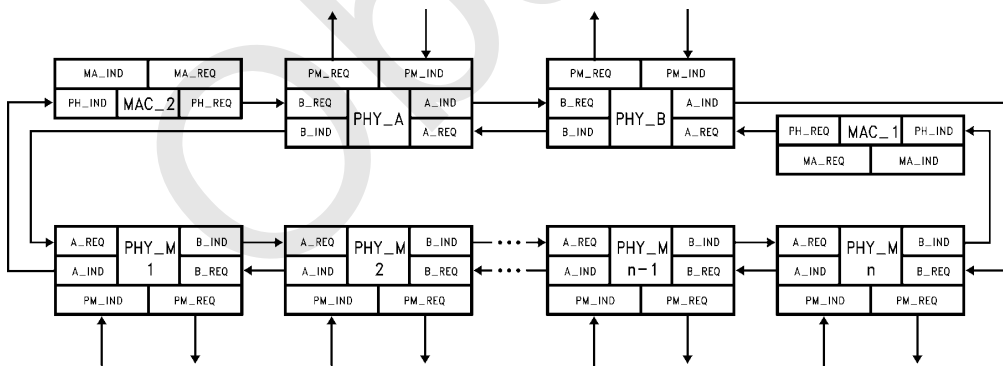

FIGURE 3-17. Dual Attach Concentrator (DAC), Dual MACs
*Figure 3-17* shows a Dual Attach concentrator with dual MACs.